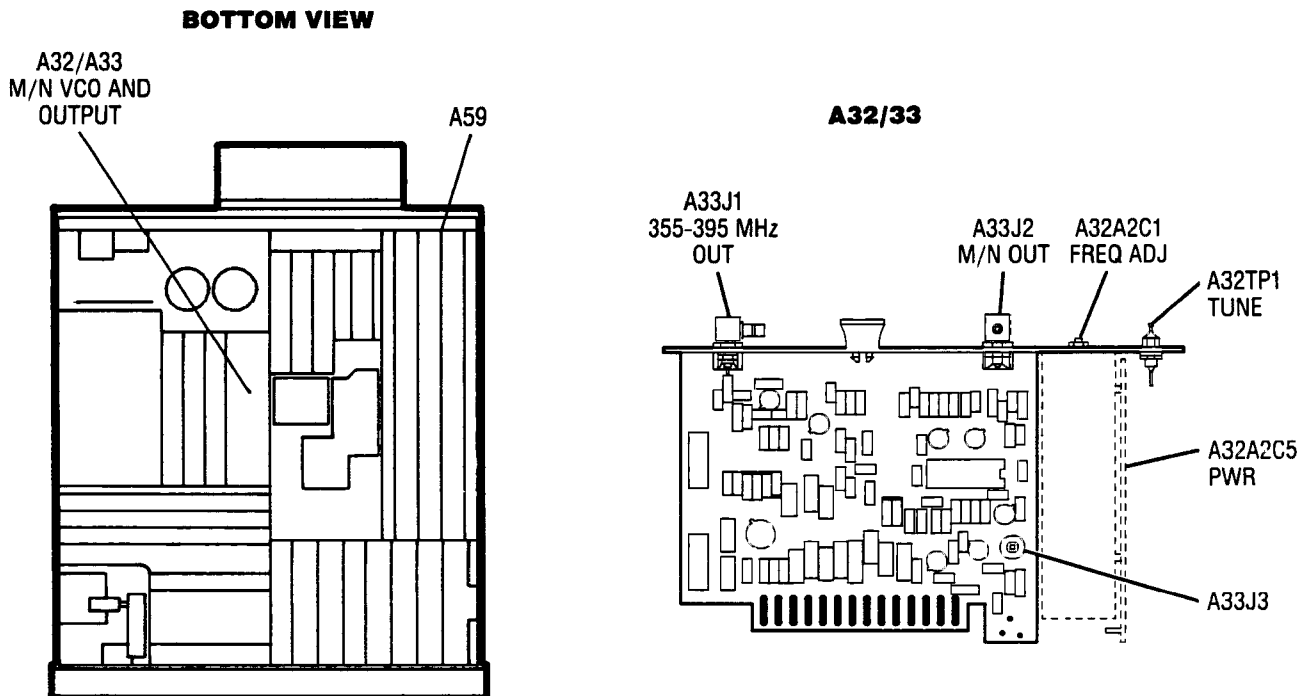

Figure 5-8. Location of M/N Loop Adjustments
6. Connect DVM to A32TP1 TUNE test point. Refer to Figure 5-8 for location of A32 assembly.
12. Disconnect the A32 output cable A32A1W1 from A33J3 (Figure 5-8) and connect this cable using SMB male-to-male adapter to the input of the Spectrum Analyzer. Set the DUT's LINE switch to ON and press [INSTR PRESET].
15. Adjust A32A2C5 PWR for a VCO output level of 0 dBm ± 2 dB as indicated on Spectrum Analyzer. Refer to Figure 5-8 for location of adjustment.